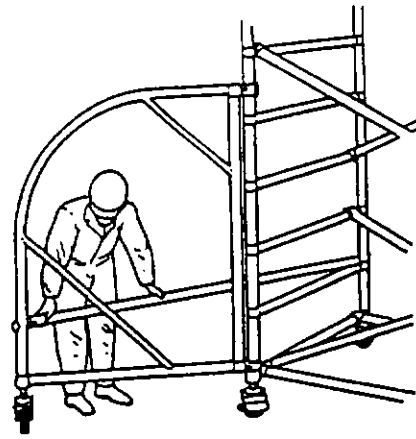

Fig.26
- c. Clip a BDS8 (small outrigger brace) into position as indicated in Fig. 26 to obtain the correct positioning of the outrigger.